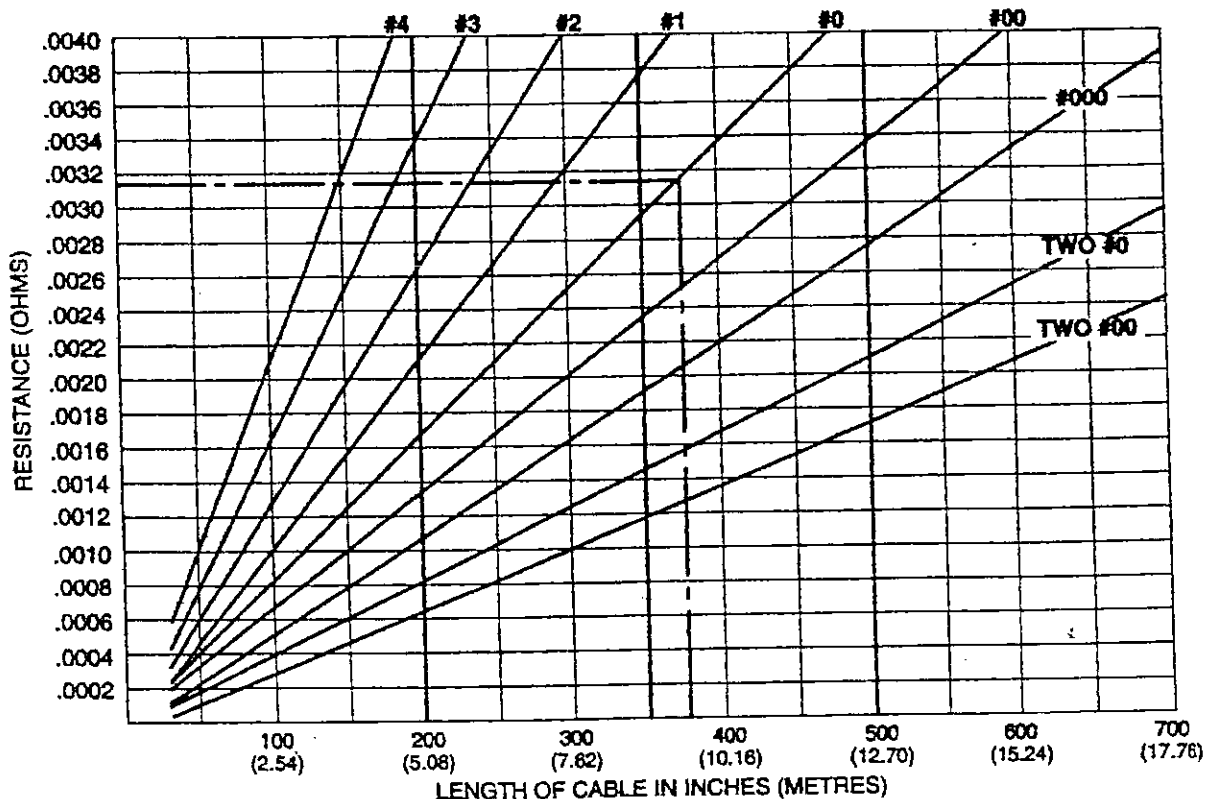

FIGURE 37. RESISTANCE VS. LENGTH FOR VARIOUS AWG CABLE SIZES
4. Refer to Figure 37 for AWG (American Wire Gauge) cable resistances. In this example, as shown by the dashed lines, #0 AWG is the smallest cable size that can be used.